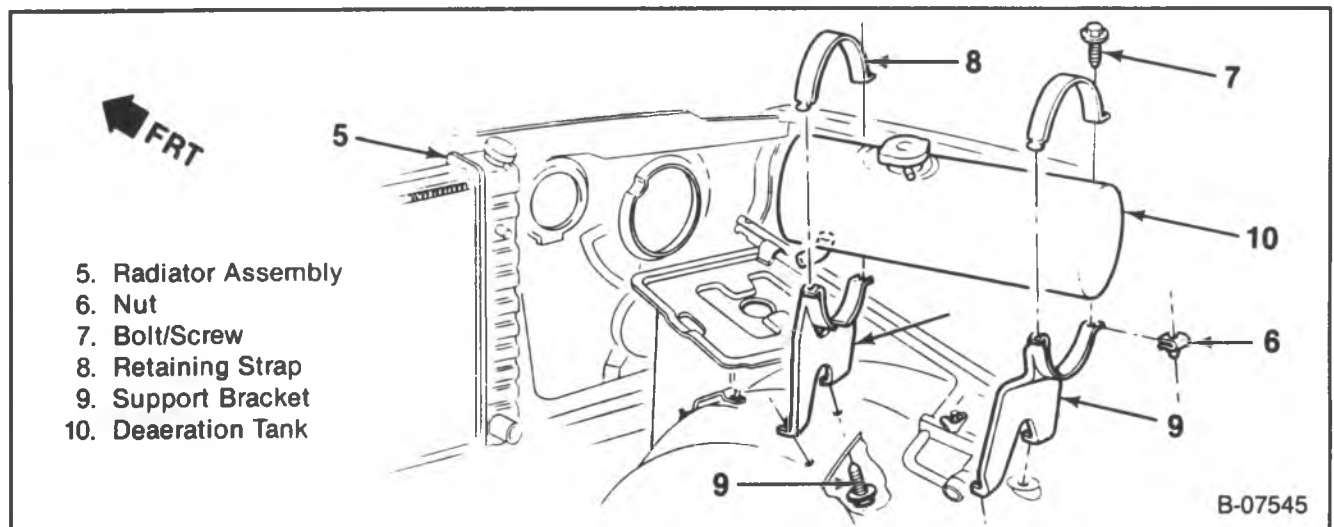

Figure 8 — Deaeration Tank Installation (R/V Models)
Remove or Disconnect (Figures 8, 9 and 10)
1. Coolant from the deaeration tank (10).
3. Return hose (12) from the deaeration tank (10).
4. Deaeration tank (10) from the vehicle.
- Bolts or screws (7) and the retaining straps (8) from the support brackets (9) (figures 8 and 10) (R/V and P-Models).
Install or Connect (Figures 8, 9 and 10)